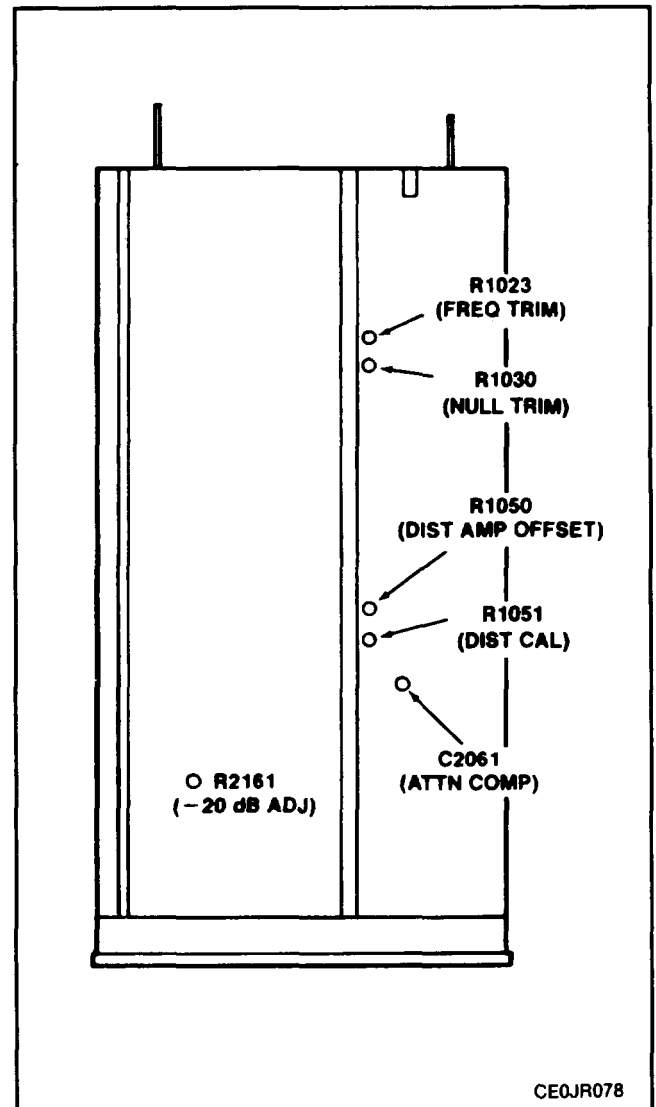

Fig. 4-2. TS-4084/G top cover adjustments access.
To gain access to the test points and adjustable components, refer to the Maintenance section for disassembly instructions (removing the distortion analyzer from the power supply and removing the distortion analyzer side covers). Some adjustments are accessible through the top and bottom covers. See Fig. 4-2.
- e. ADJUST – R1050, accessible through a hole in the top cover (see Fig. 4-2) and located on the Input/Notch Filter board, while alternately pressing the 0.2% and 20% AUTO RANGE buttons for a jump amplitude of less than 100 mV.
- g. ADJUST – C2061 (Fig. 4-2), for a display readout equal to exactly ten times the reading noted in step 5d.
- h. ADJUST – R2161 (Fig. 4-2), for a display readout of exactly – 20.0 dBm.
- d. ADJUST – R1030 (Fig. 4-2), for the lowest display readout.
- e. ADJUST – R1023 (Fig. 4-2) for the lowest display readout.
- g. ADJUST – R1051, accessible through the top cover hole (Fig. 4-2) for a display readout of 1.000%.